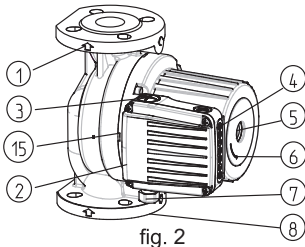
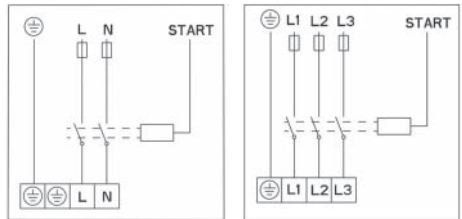

fig. 2
fig. 4
The arrow on the pump casing indicates the direction of water flow (fig. 2 - POS. 1).
The openings for the elimination of condensation must be clear and must permit discharge from the stator housing. These openings must remain clear in heating systems where only the body of the pump must be insulated (figures 2,3 POS. 15).
Before connecting it, the upper cover must be unscrewed (fig. 2 – POS. 2)
To modify pump performance (head) according to need it is necessary to remove the upper cover (Fig.2 – POS.2). To change the speed move the speed selector (Fig.4 page 44) to the desired speed.
- unscrew the vent cap and turn the pump shaft with a screwdriver (fig. 2 – POS. 5) until the pump is unblocked;